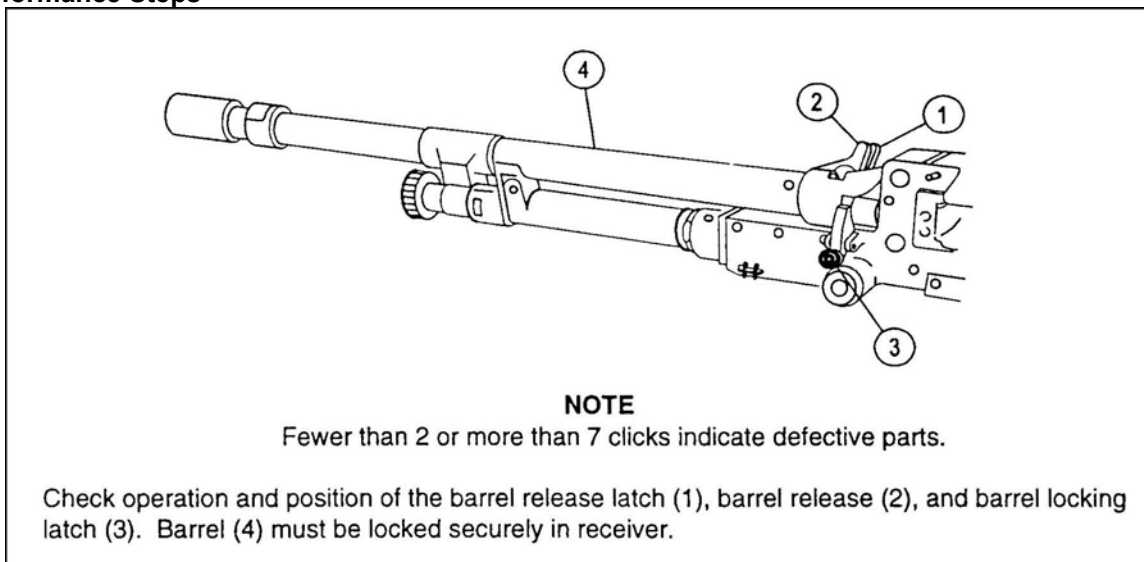

Figure 12. Barrel latch release.
- (7) Press the manual safety to the left to F.
- (8) Pull back on and hold the charger handle to the rear.
- (9) Manually fire the weapon and slowly guide the bolt forward.
- (10) Lift up on the retaining pin handles to unlock and pull the retaining pins out of the M240C coaxial machine gun alignment holes.
- (11) Lift up and pull back on the M240C coaxial machine gun to remove it from the plenum.
- (12) Depress the barrel locking latch and hold.
- (13) Turn barrel release to upright position.
- (14) Remove barrel (Figure 12).